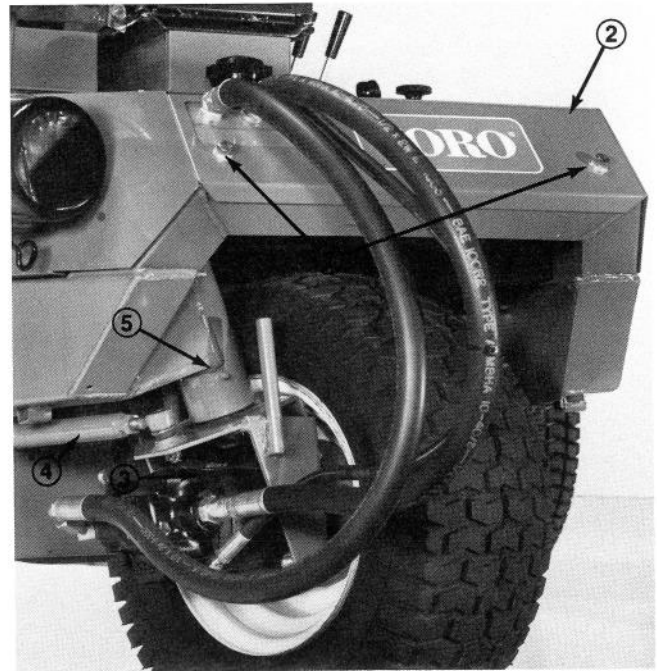

Figure 64
2. Remove two (2) capscrews securing rear cover, remove fuel cap, lift cover over rear hydraulic lines and slide cover rearward to clear fuel tank and battery (Fig. 64).
4. Remove fuel tank, rear wheel, rear wheel hub, hydraulic motor and rear steering tube and socket assembly (Fig. 64). Do not kink or bend the hydraulic lines while removing the motor.